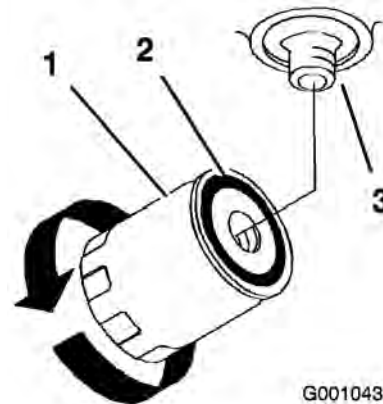

Figure 66
5. Remove the old filter and wipe the filter adapter gasket surface clean (Figure 66).
9. When the hydraulic filter is full, turn the oil filter clockwise until the rubber gasket contacts the filter adapter, then tighten the filter an additional 1/2 turn (Figure 66).